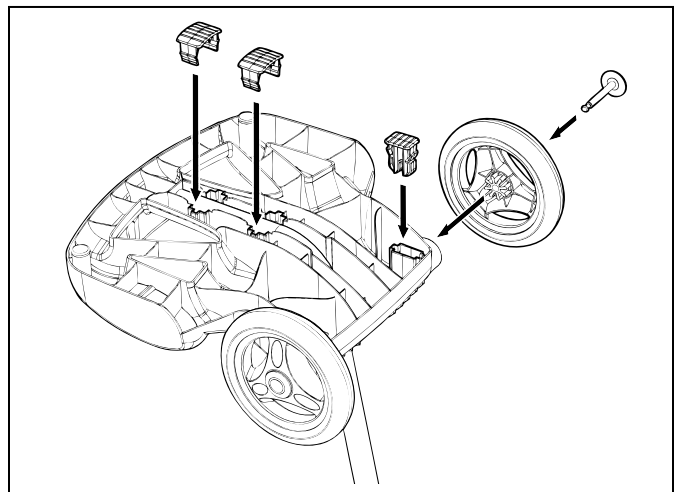

Figure 5. Snap in Support Blocks and Attach Wheels
- Snap two (2) support blocks into place (Figure 5).
- Slide axle and hubcap piece through center of wheel and attach to base unit. Snap locking clip into place to secure wheel. Repeat to attach both wheels (Figure 5).